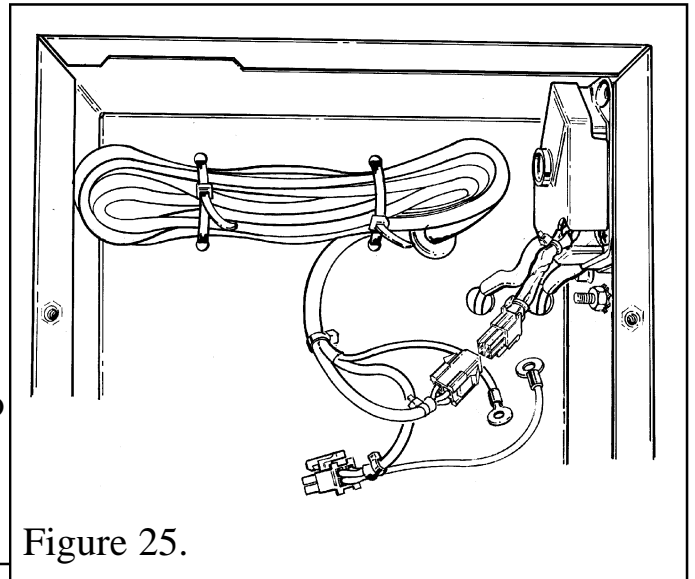

Figure 25.
13. Stow the excess cable as shown in figure 25. Leave about 200mm of free length for fan motor connection. Secure the stowed cable inside the fan box with cable ties.